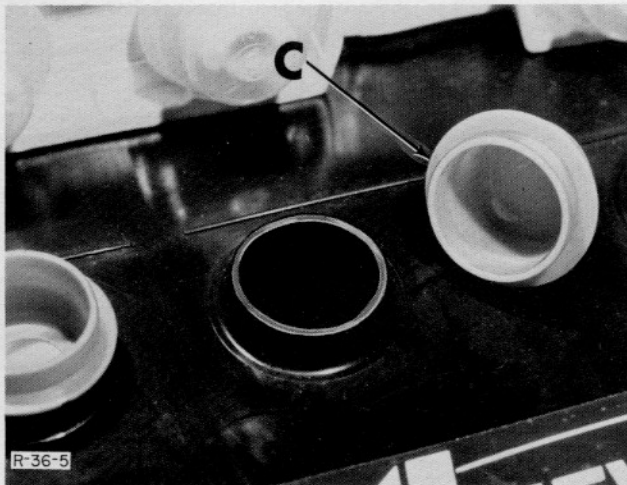

Figure 27
4. Remove the temporary inner vent caps "C" Fig. 27. These caps are for shipping purposes, they **MUST** be discarded.